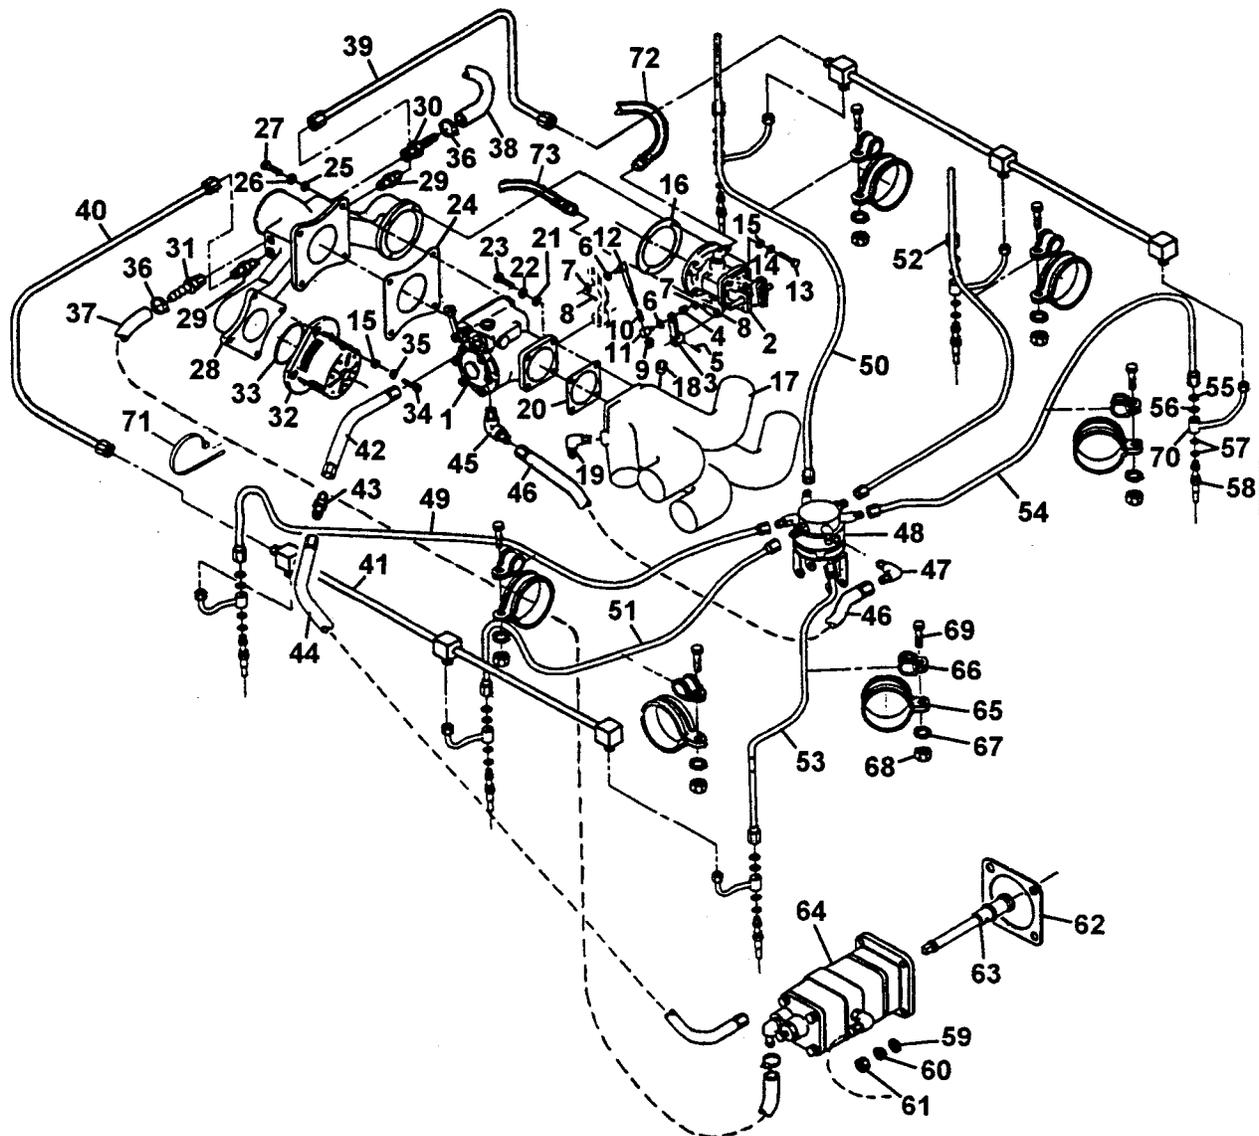
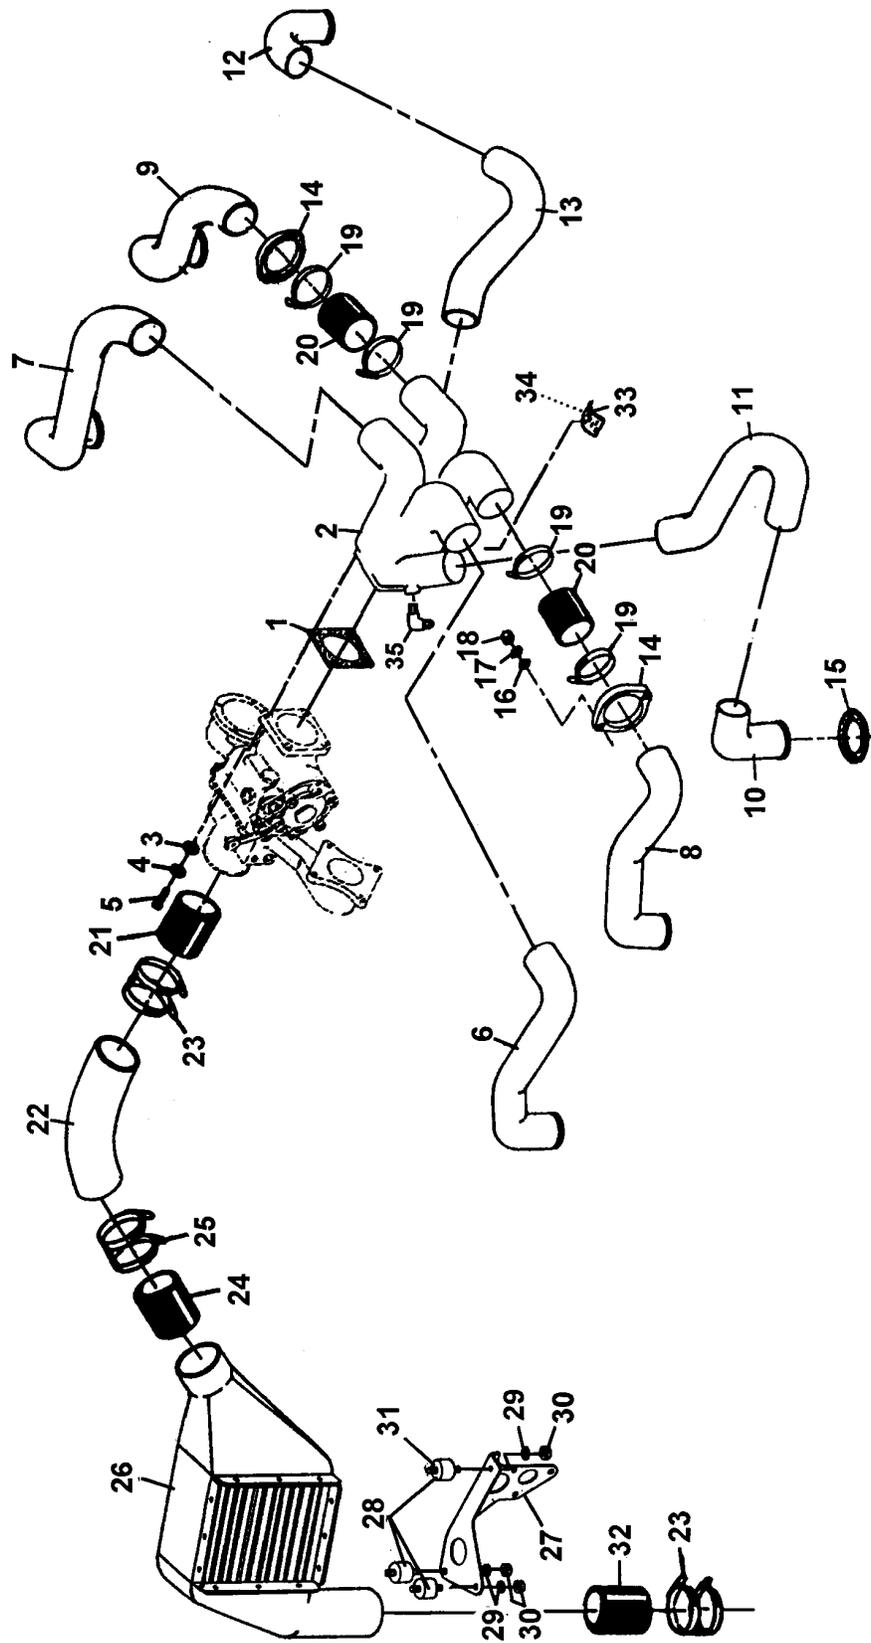

FIGURE 6-3. FUEL INJECTION SYSTEM
FIGURE 6-4. INDUCTION SYSTEM
6-3 FUEL INJECTION SYSTEM REMOVAL AND DISASSEMBLY (See Figure 6-3.)
3. Remove the 2-4-6 side air reference tube assembly (39) and air manifold tube assembly (41). Loosen and remove sleeves (70) from air manifold tube assembly (41).
4. Remove the 1-3-5 side air reference tube assembly (40) and air manifold tube assembly (41). Loosen and remove sleeves (70) from air manifold tube assembly (41).
- a. Remove fuel nozzles (58) from each cylinder.
- b. Remove o-rings (57) from nozzles (58) and discard.
6. Remove fuel hose (42), fitting (43), and hose (44) from fuel servo and fuel pump. Discard fuel hoses (42, 44).
7. Cut and remove tie strap (71). Loosen clamps (36) and remove air reference hose (37) from air throttle adapter and fuel pump. Discard hose (37) and tie strap (71).
8. Remove hose (46) from fuel servo and fuel manifold valve. Remove hoses (73, 72) from controller assembly (2). Discard hoses (46, 72, 73).
9. Remove the crankcase backbone hardware that secures the fuel manifold valve to the engine and remove fuel manifold valve (48).
10. See Figure 6-4, "Induction System." Remove clamp (23) and hose (21) between air throttle adapter and induction tube (22). Remove the assembled tubes, aftercooler, bracket and place on a work bench to be separated later. Discard hose (21). See Figure 6-3, "Fuel System." Remove screws (23), lock washers (22) and washers (21). Remove air throttle adapter assembly (28), fuel servo(1), controller (2) and overboost valve (32) as an assembly from the engine. Discard gaskets (20, 24) and lock washers (22, 26).
11. Remove nuts (61), lock washers (60) and washers (59). Remove fuel pump assembly (64) and gasket (62). Reach into crankcase fuel pump cavity and remove drive shaft (63). Discard fuel pump gasket (62) and lock washers (60).
6-4 INDUCTION SYSTEM REMOVAL AND DISASSEMBLY (See Figure 6-4.)
NOMENCLATURE FOR FIGURE 6-4.